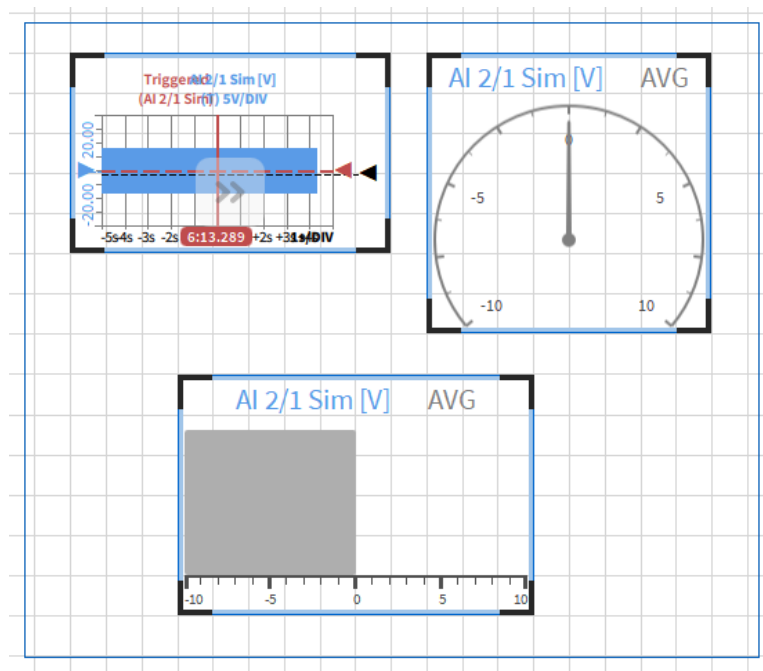

Fig. 8.4: Selection of several Instruments in the Design Mode
- Several Instruments on the screen can be selected by drawing a selection rectangular with the left mouse button like it is known from Windows Explorer or similar (see Fig. 8.4) or by keeping **CTRL+SHIFT** pressed while selecting the Instruments. All Instruments on a measurement screen can be selected by pressing **CTRL+A**.